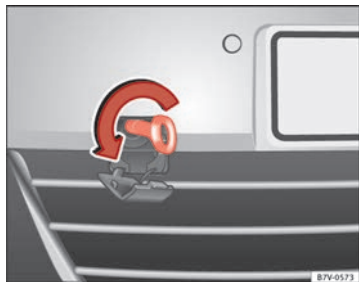

Fig. 221 On the right-hand side of the front bumper: Screw in the towline anchorage
The location for the removable towline anchorage is on the right-hand side of the front bumper ⇒ Fig. 221.
- Screw in the towline anchorage into its position **anticlockwise** as far as it will go ⇒ Fig. 221 ⇒ ①. Use a suitable tool to firmly tighten the towline anchorage in its location.